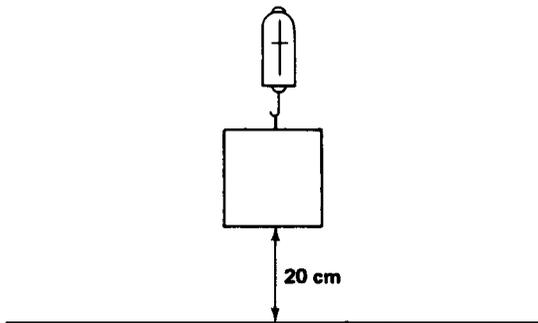

Figure 6-3
2. Using the spring scale, lift the wood block 20 cm from the top of the table (Fig. 6-3).